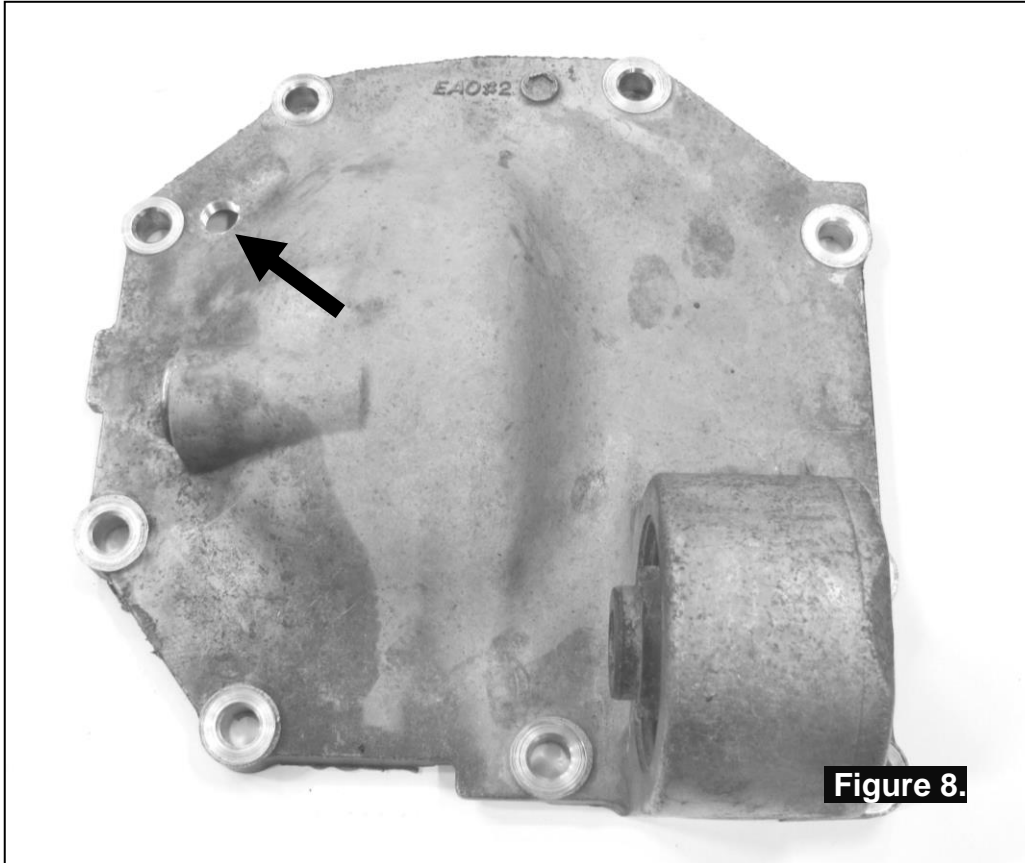

Figure 8.
- Mark a spot on the exterior of the differential cover plate in the position shown in Figure 8. (i.e., toward the 10 o'clock hole, in the flat area that will be accessible from the outside and clear of all moving components inside).